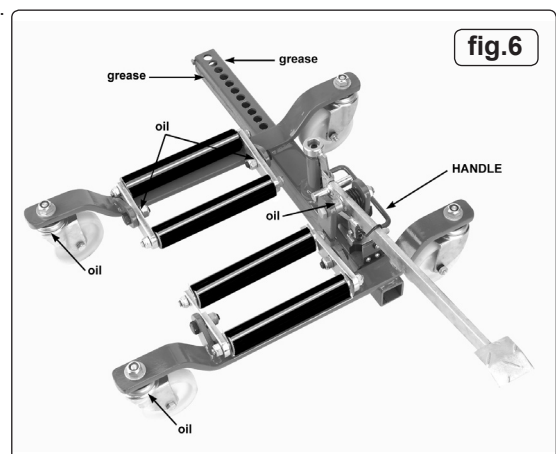

fig.6
For balanced carrying use the handle welded on the side of the square tube. (See Fig.6.)
5.1. Lubricate the wheels, roller pivots and the foot pedal lever pivot periodically with oil as shown in fig.6. Grease the four faces of the square section tube lightly as shown in fig.6 then open out the unit to its full extent and grease the faces of the tube previously hidden.